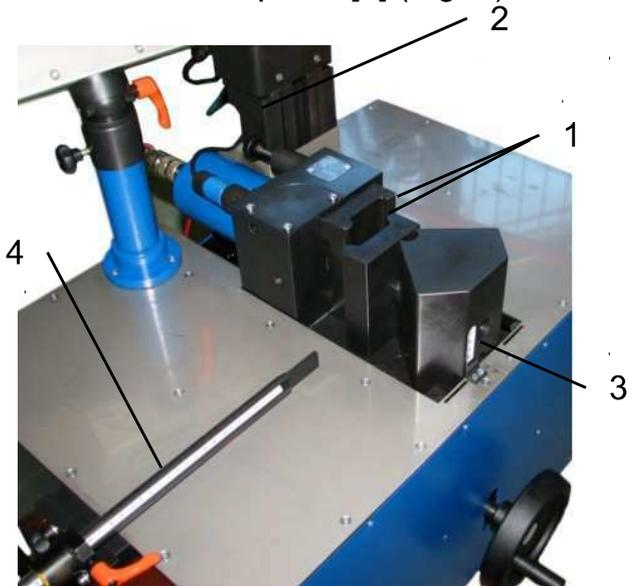

Fig. 7.
1. Mount offsetting insert [1] (Fig.7).
3. Turn the knob S1 so that the centre of the rail width coincide with the centre of the offsetting insert. For adjusting use the measurements ruler [3] (Fig.7).
4. Settle the value of offsetting using the knob [2] (Fig.7).
5. Put the busbar to the working space and in order to define the distance use the measuring ruler [4] (Fig. 7).